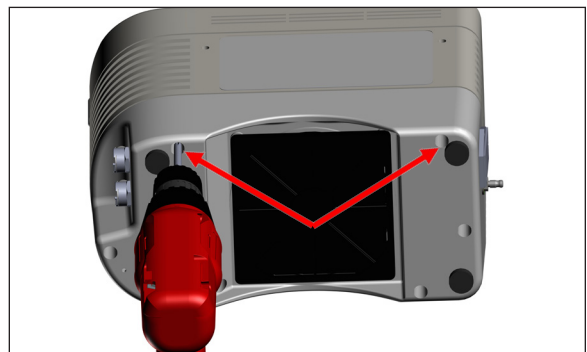

Figure 24 - Step 3 Install two base enclosure screws.
3. Secure the rear enclosure to the bottom enclosure using two #10-24 x 3/4" Phillips, fillister head screws (Figure 24).